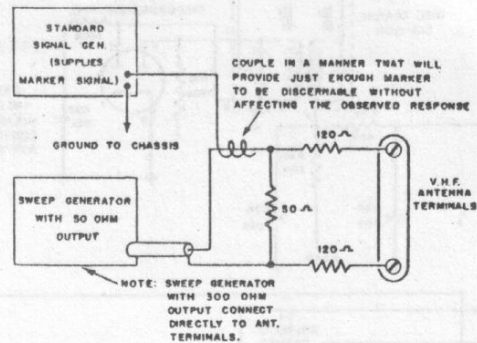

Figure 2. GENERATOR CONNECTIONS FOR TELEVISION R.F. CHANNEL ALIGNMENT.
1. Connect marker and sweep generator as shown in Fig. 2, low side to chassis.
NOTE: It is important that the output cable of the sweep and marker generator be properly terminated in their characteristic impedance which is usually from 50 to 70 ohms. If this termination has not been built into the end of the cable by the instrument manufacturer, then a resistor of the proper value (characteristic impedance) should be connected as shown in Fig. 2.